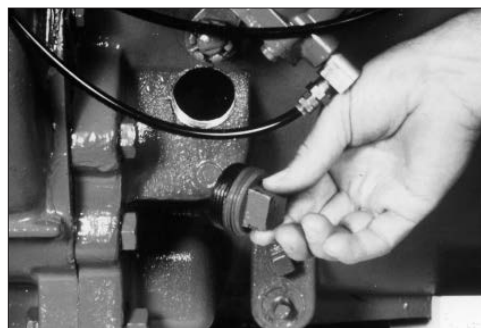

Figure 17
1. Remove the filler plug from the transmission and add recommended transmission lubricant to the level prescribed by the transmission or truck manufacturer (**Fig. 17**).